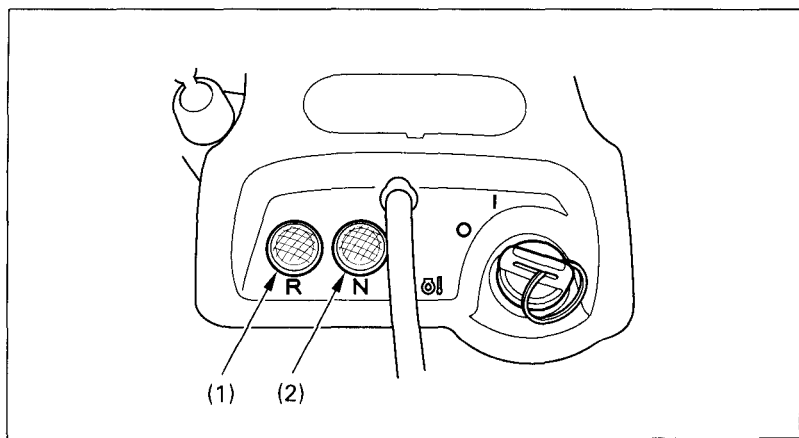

Fig. 2-10
The reverse indicator lamp (1) and the neutral indicator lamp (2) (Fig. 2-10) are next to the ignition switch.